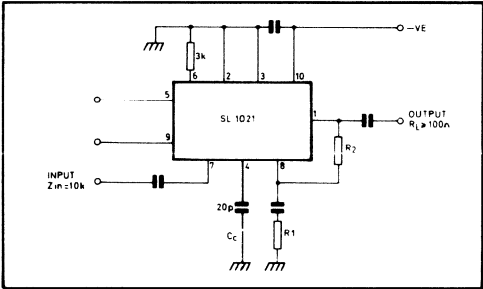

Fig. 4 Fixed gain amplifier, Class A or AB
Fixed gain application (see Fig. 4)
3. If the control resistance is increased or open circuited, the amplifier gain will decrease to zero. (See Fig. 4 for fixed gain use).